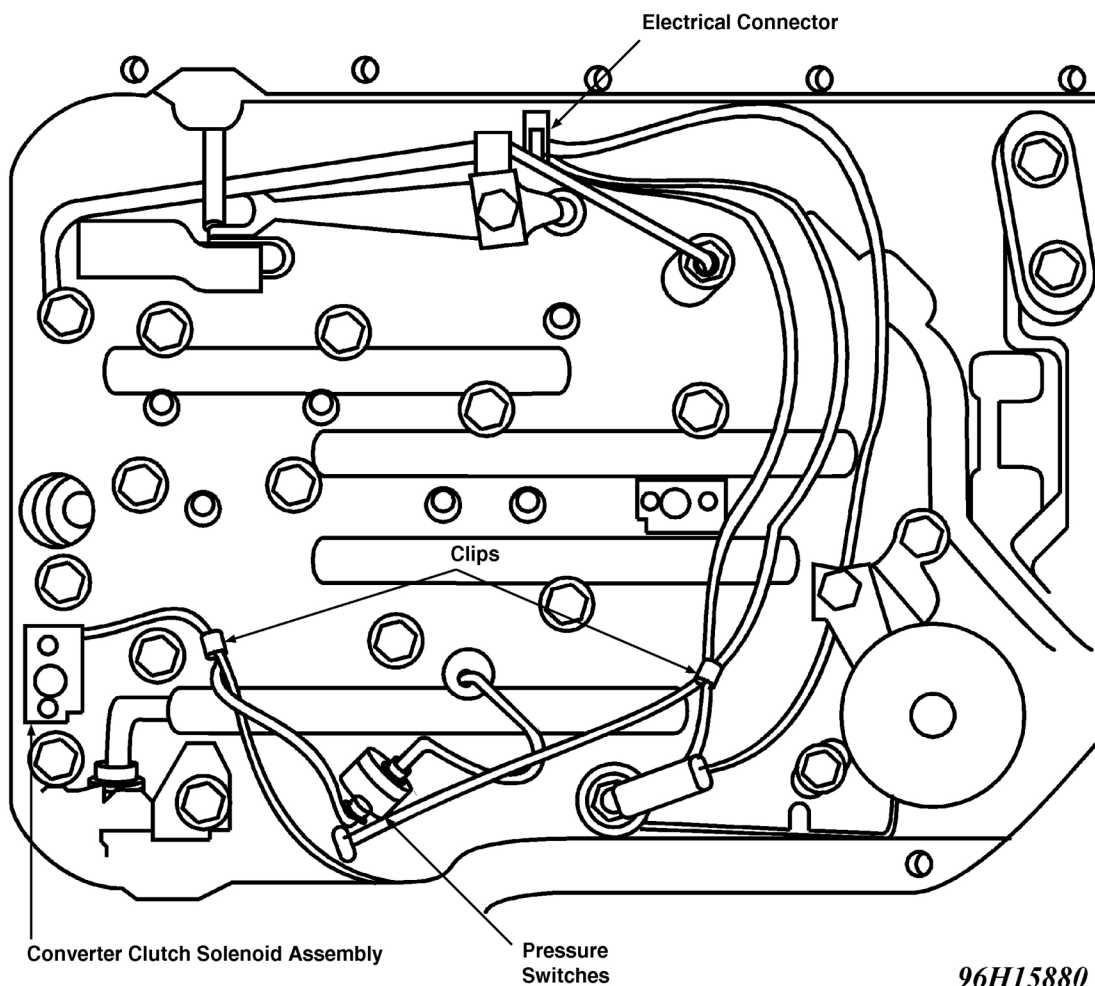

Fig. 3: Bottom View of Transmission Case
2. Disconnect wire leads at electrical connector and pressure switches. See **Fig. 3**. Using a 3/4" box wrench to compress connector tangs, withdraw electrical connector and "O" ring from case. Remove converter clutch solenoid assembly bolts, clips and solenoid.